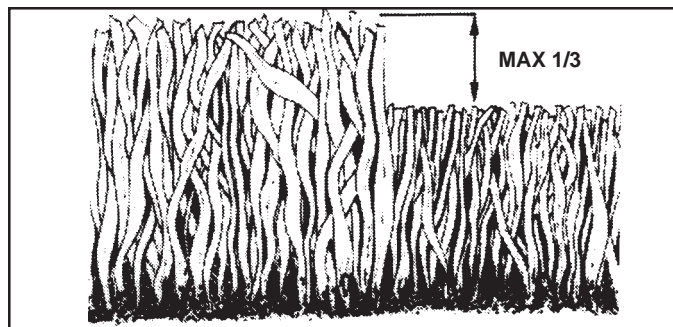

FIG. 5
- For best results, adjust the mower cutting height so that the mower cuts off only the top one-third of the grass blades. (See Fig. 5). For extremely heavy mulching, reduce your width of cut and mow slowly.